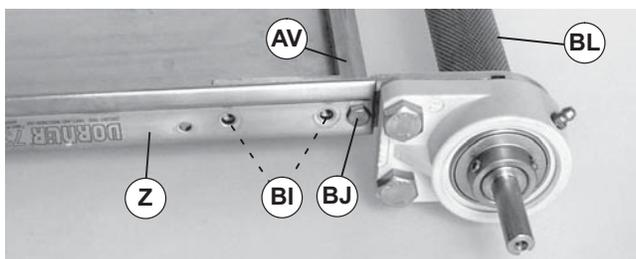
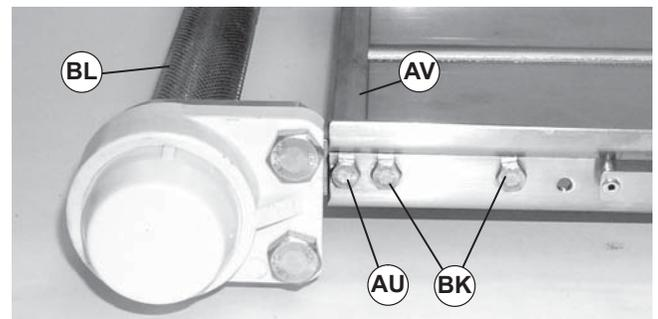

Figure 34
Figure 35
Two screws (Figure 34, item BI) were removed in step 1. If conveyor is in the upright position, cross support post (AV) will not be secure and may drop when screws (Figure 34, item BJ) and (Figure 35, item AU) are removed.
2. Remove screw (BJ) from conveyor (Z) and cross support post (AV).
3. Remove screw (Figure 35, item AU) and cross support post (AV) from conveyor (Z) and drive spindle assembly (BL).
For a conveyor with a Heavy Load Bottom or Top Gearmotor Mounting Package, the two screws (Figure 35, item BK) were removed in step 1. If conveyor is in the upright position, drive spindle assembly (Figure 35, item BL) will not be secure and may drop when screws (Figure 34, item AU, BJ and BK) and (Figure 35, item AU, BJ and BK) are removed.
4. Remove two screws (Figure 35, item BK) and drive spindle assembly (BL) from conveyor (Z).
3. Position drive spindle assembly (Figure 35, item BL) on conveyor (Z) and loosely secure with two screws (BK).
4. Install cross support post (Figure 35, item AV) and secure with two screws (Figure 34, item BJ) and (Figure 35, item AU). Tighten screws to 33 in-lb (3.7 Nm).